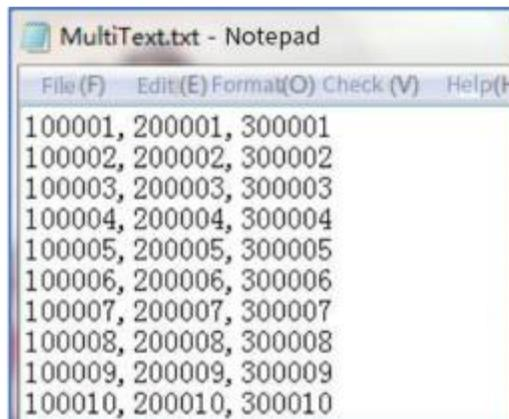

Figure 7-1
1.First enter the required information in the U disk, **and note that the two pieces of information are separated by a comma", "**, as shown in Figure 7-1.